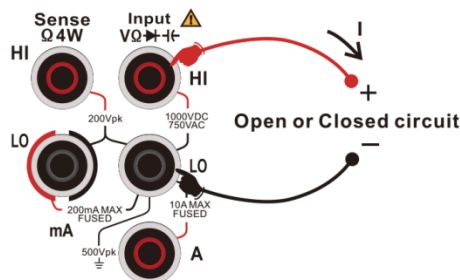

Figure 2-24 Connection of continuity testing
Connect the test leads to the measured circuit as Figure 2-24, connect the red test lead to terminal Input-HI, and the black one to terminal Input-LO.
- 2) Connect the test leads to the measured circuit by connecting the red test lead to terminal Input-HI, and the black one to terminal Input-LO as Figure 2-24.